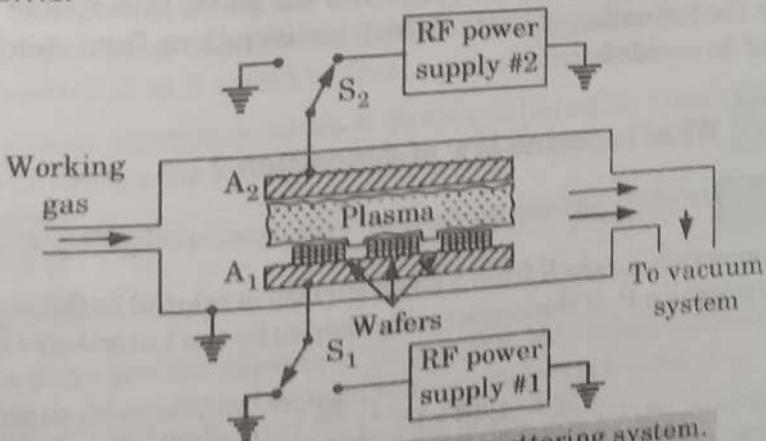

Fig. 5.7.1. Parallel plate sputtering system.
1. A geometry used for plasma/cathode sputtering is the parallel-plate configuration, the RF glow discharge version of which illustrated in Fig. 5.7.1.